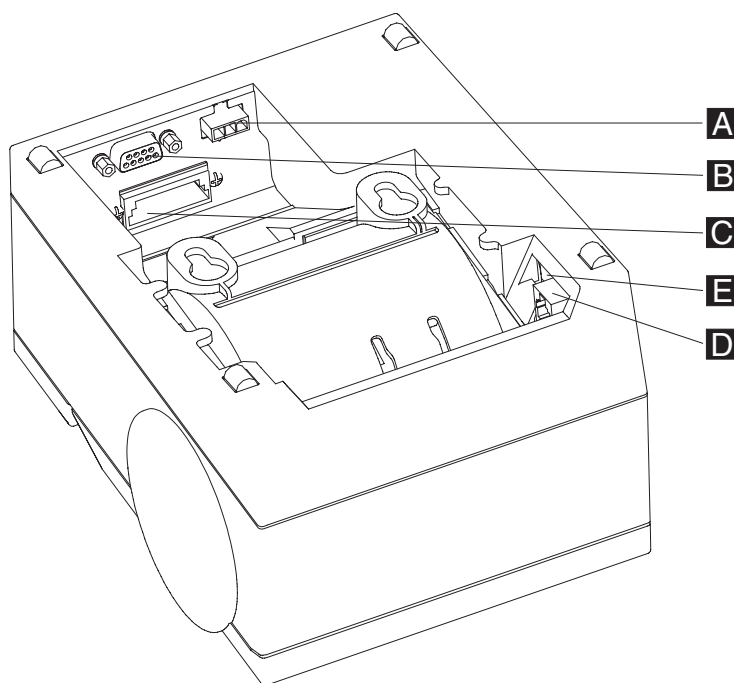

Figure 101. 4610 SureMark Single-Station TF6 or TF7 printer connector locations
Figure 101 shows the 4610 SureMark Single-Station TF6 or TF7 printer connectors.
1. Check the printer RS-232 mode switch settings, which is near the rear cable connections. See **E** in Figure 101 on page 121 for switch location. For switch settings, see the *IBM 4610 SureMark Point-of-Sale Printers User's Guide*.